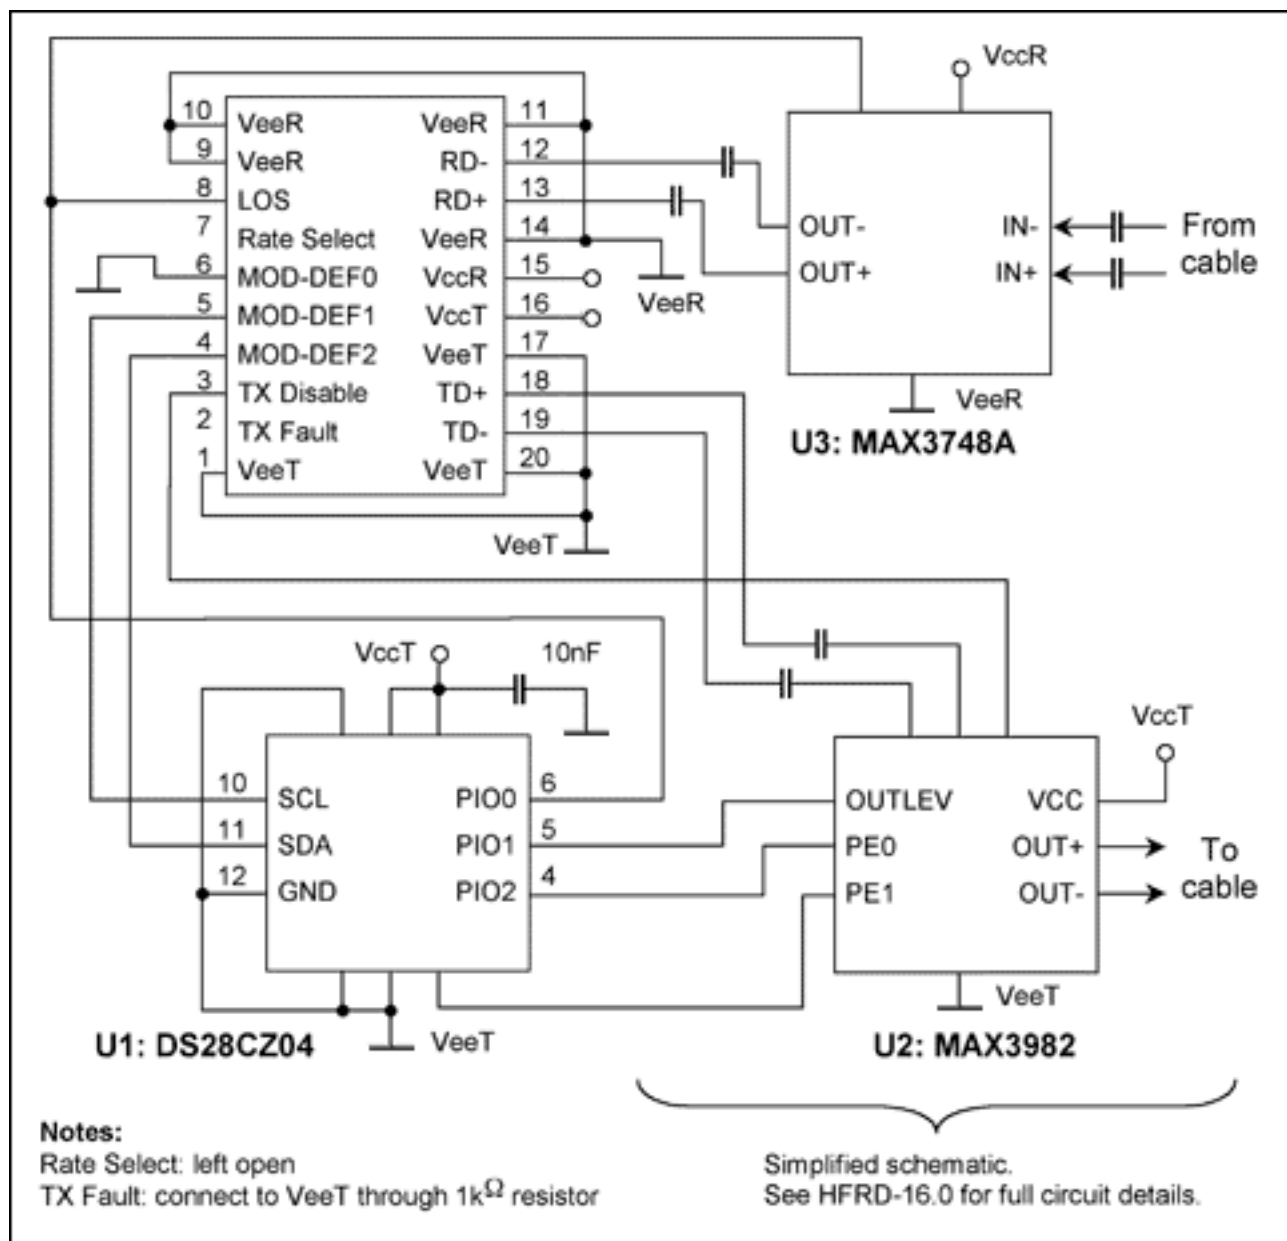

Figure 1. Simplified schematic of the DS28CZ04 in an active copper SFP cable assembly.
Figure 1 shows the simplified schematic of the circuit used at either end of the cable. The box at the top left section represents the SFP connector with all signals and pin assignment. A cross reference between pin name and signal function is found in **Table 1**. The DS28CZ04 I²C memory chip connects to MOD-DEF1, MOD-DEF2, and transmitter power/ground. To reside on the correct SFP slave address, the address pins A1 and A2 need to be tied to ground. Write protect (WP) and master reset (MRZ) are not used; these pins are tied to ground (WP) and power (MRZ), respectively. PIO2 and PIO3 control the preemphasis inputs of U2, the MAX39823 driver chip. The transmit data is routed AC-coupled from the SFP connector to the differential inputs of U2. The differential outputs directly drive the cable. The amplitude of the differential output can be set to one of two levels through the OUTLEV input, which is controlled by PIO1. For further information on how the remaining pins of U2 are connected, see the HFRD-16.0 document cited above.